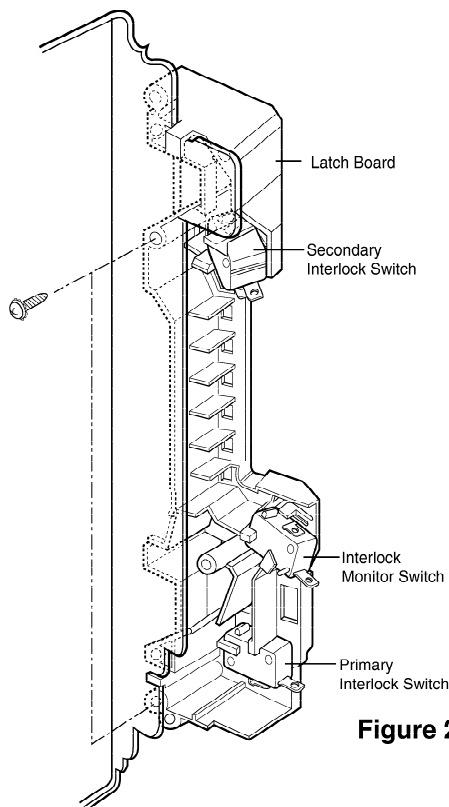

Figure 24
- (1) Set the microwave oven on its side so that you can see the latch board and the switches, as shown in Figure 24.